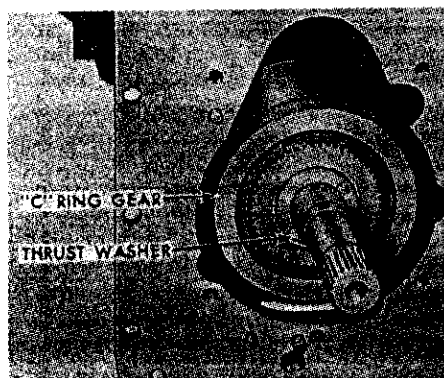

Fig. 277—View showing selective fit thrust washer installed on output shaft. Model 5000 is used for illustrative purposes.
seal in rear support using suitable driver so that flange of seal (14—Fig. 275 or 276) contacts rear support evenly. Use a light film of grease to stick the thrust washer (2) over Clutch 2 and 3 retaining snap ring with counterbore of washer over the snap ring. Carefully install the assembled "C" ring gear and "D" sun gear or output shaft over the Clutch 2 and 3 assembly so that "C" ring gear engages gears on "C" carrier. On model 4000, place the selective thickness thrust washer (7—Fig. 276) over end of output shaft as shown in Fig. 277. On models 2000 and 3000, stick the selective thickness thrust washer (7—Fig. 275) in front end of "D" carrier with a light film of grease.